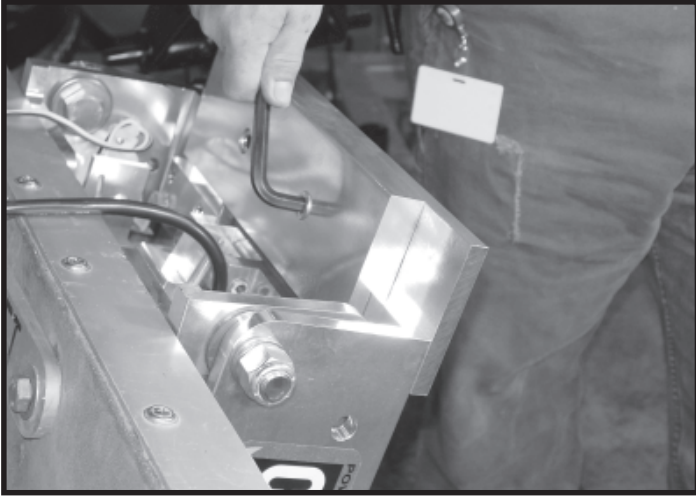

FIG. 13
Step 7C: Tighten the hex head bolts in the top adapter plate. (FIG. 13)